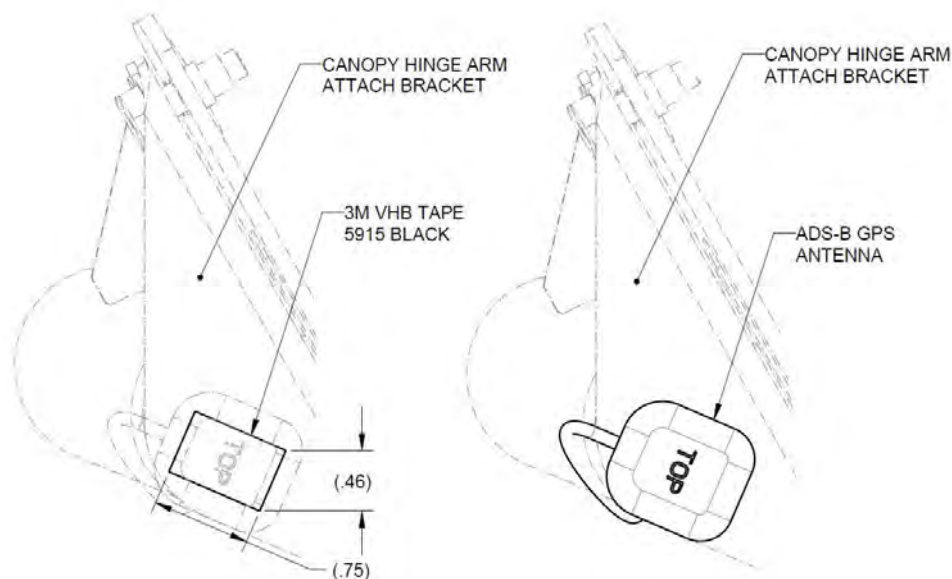

FIGURE 13-25
1. Mount ADS-B GPS ANTENNA to the top of the Canopy Hinge Arm Attach Bracket as shown in and as follows. See Figure 13-25.